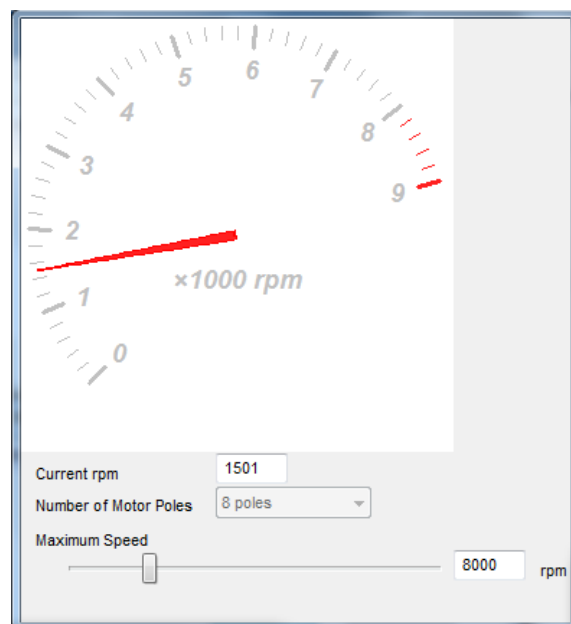

Figure 14. Tachometer window
- Tachometer window (Figure 14)